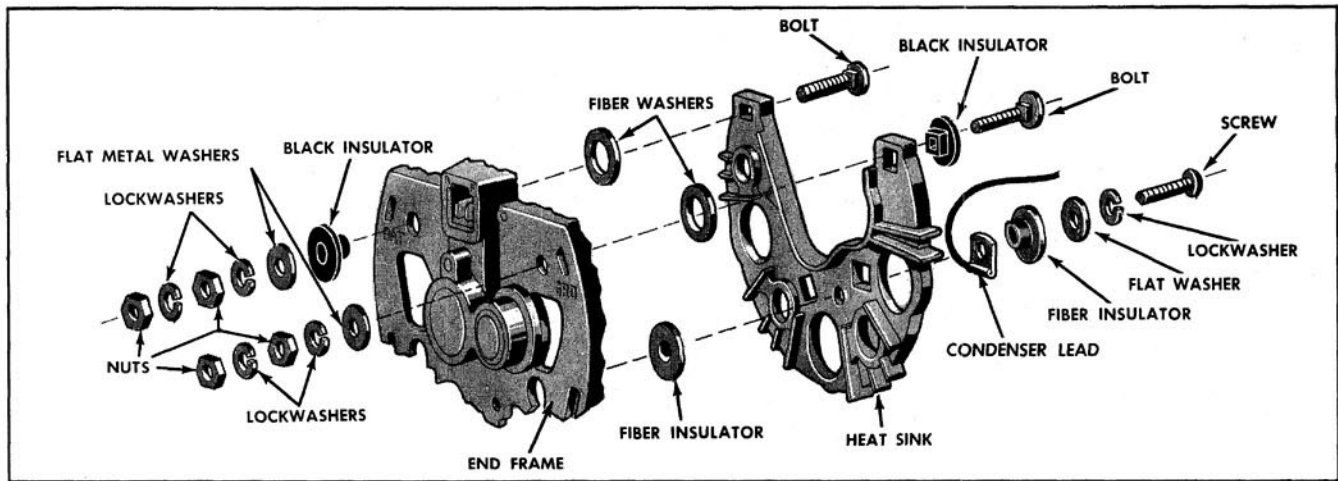

Fig. 13-42 Slip Ring End Frame Assembly
2. Install the heat sink, making sure insulated washers are installed as shown in Fig. 13-42.